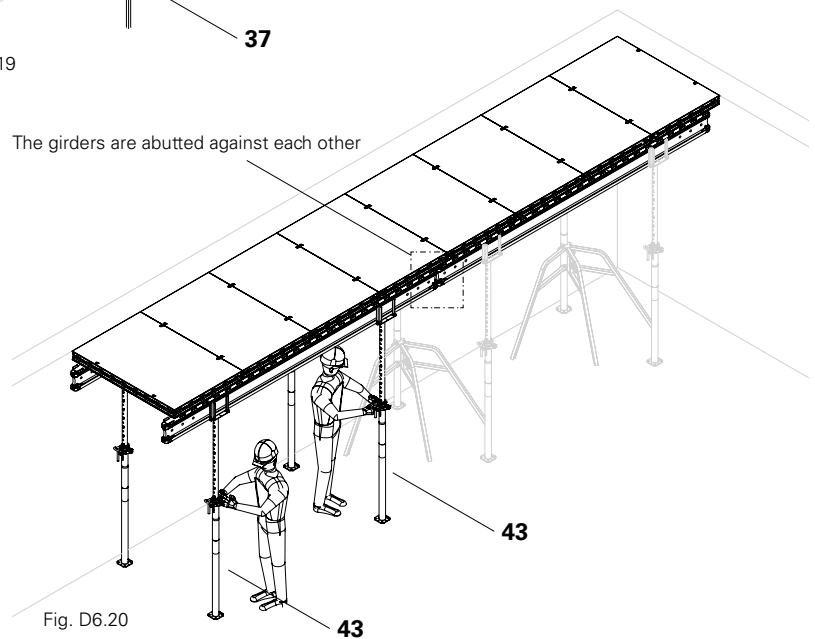

Fig. D6.20
11. Place the second girder (35) and the slab props (43) that support it beneath the edge of the panels. Adjust the slab props (43) to the correct height. The distance between the first and second row of props is 1.20 m. The second girder supports the next row of panels. (Fig. D6.20)